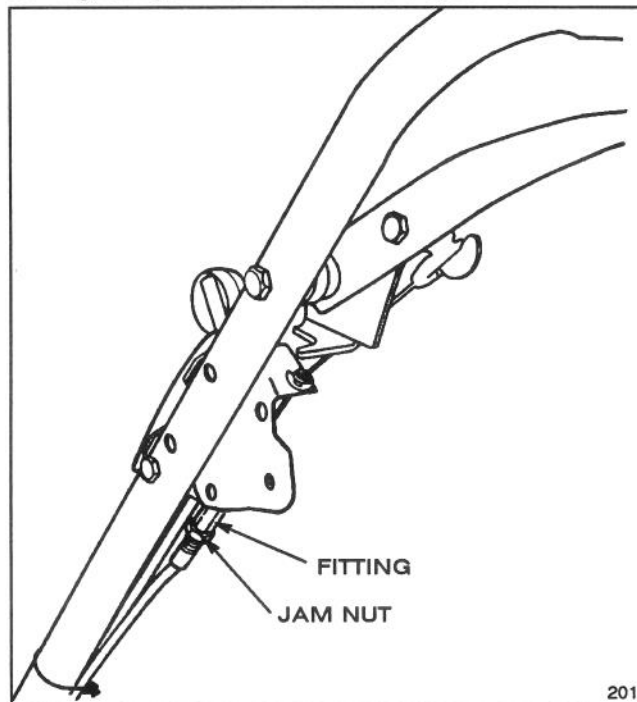

Figure 20
3. Loosen jam nut on cable adjuster and rotate fitting up or down to achieve correct distance between control bar and handle (Fig. 20).